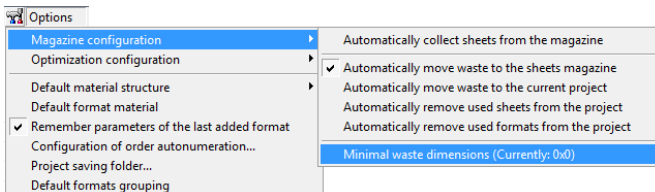

Fig. 31 – options of configuration of the sheets magazine – default view
1) ‘Magazine configuration’ – enables you to manager the sheet magazine and waste produced during cutting (Fig. 31).